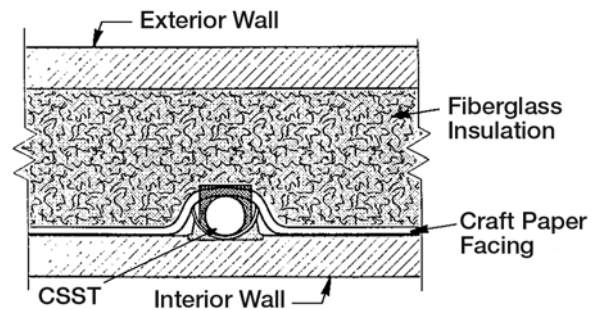

Fig. 4-48
- d) When installed inside insulated exterior walls, tubing shall be routed between the face of the insulation and the interior wall surface (Fig. 4-48). If rigid insulation is used, enough space must be provided for movement of the tubing (see Section 4.4) or heavy wall conduit must run over the length of the restrained area.
- f) Tubing routed horizontally through structural members shall be protected from puncture threats with the appropriate shielding material (Figure 4-46 and 4-47). At penetration points, listed plates of the appropriate size shall be utilized. Tubing between constraints that are less than 24 inches apart and meeting the criteria requiring full striker plates, shall be additionally protected by Steel Conduit (Fig. 4-48).